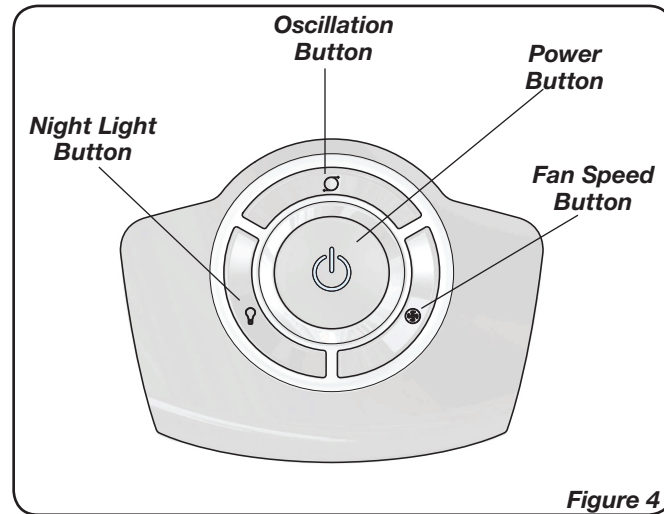
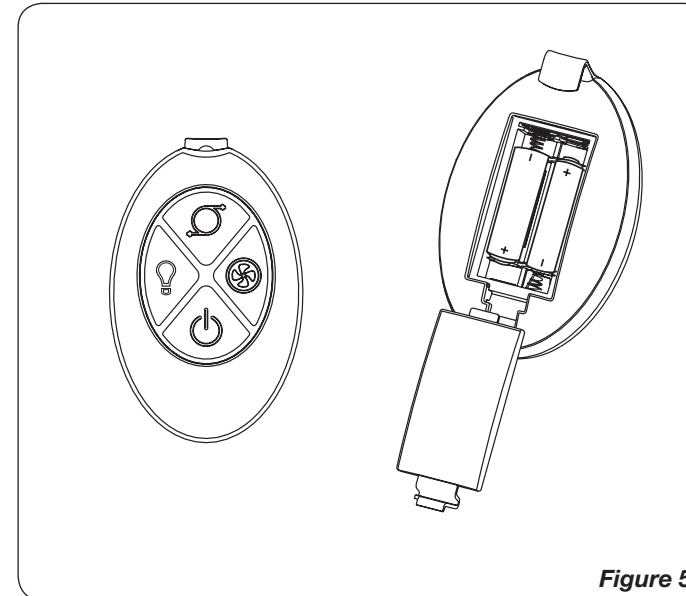

Figure 4
Figure 5
OPERATION (Figure 4)
This Fan may be operated by the local controls located on top of the unit (as shown in *Figure 4* or by the Remote Control (shown in *Figure 5*).
REMOTE CONTROL (Figures 5 and 6)
1. Install batteries ("AAA") as shown in Figure 5.